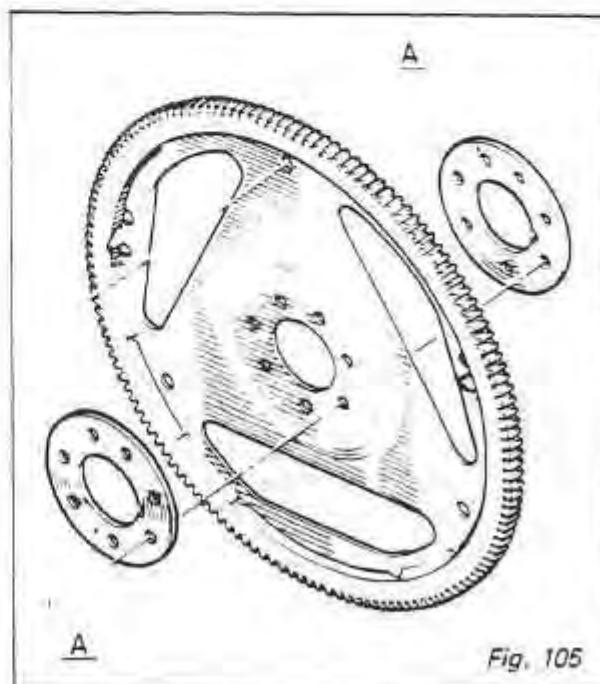

Fig. 105
Note: Place one plate (A) on each side of the convertor driving plate. (Fig. 105)